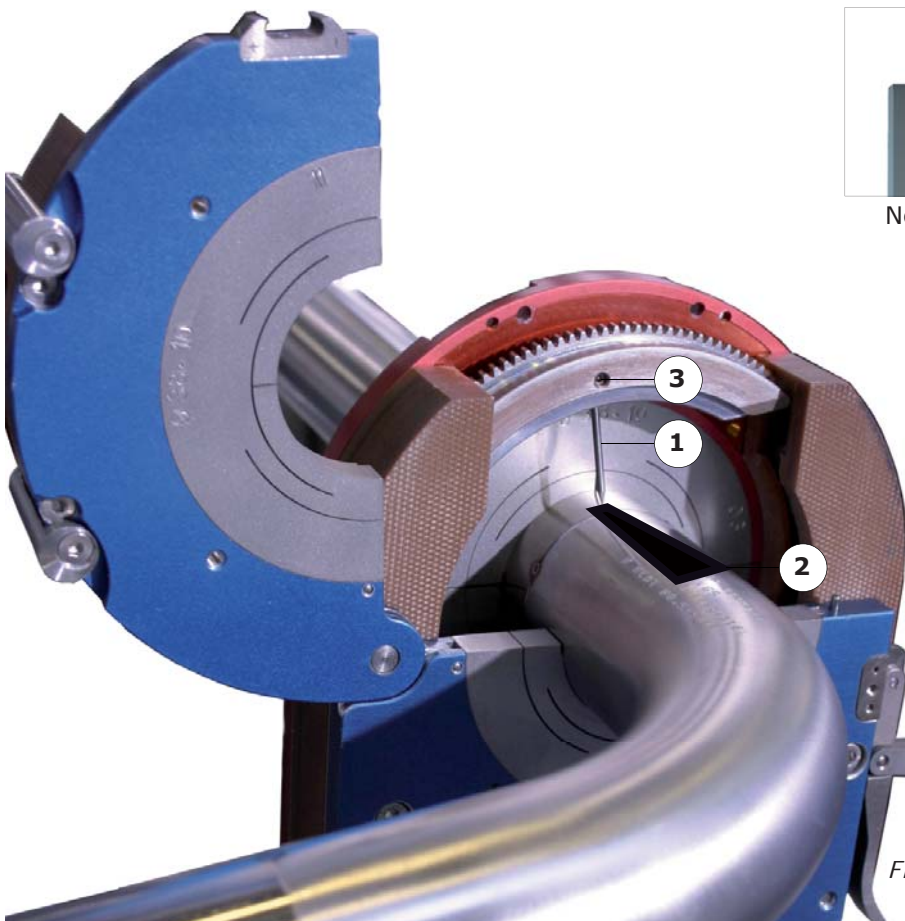

Fig.5.7 - Installing the electrode
- Insert the electrode (Fig. 5.7 - 1) into its slot.
- Set the desired distance between the electrode and workpiece using the corresponding shim (Fig. 5.7 - 2).
- Set the position of the electrode using the locking screw (Fig. 5.7 - 3).